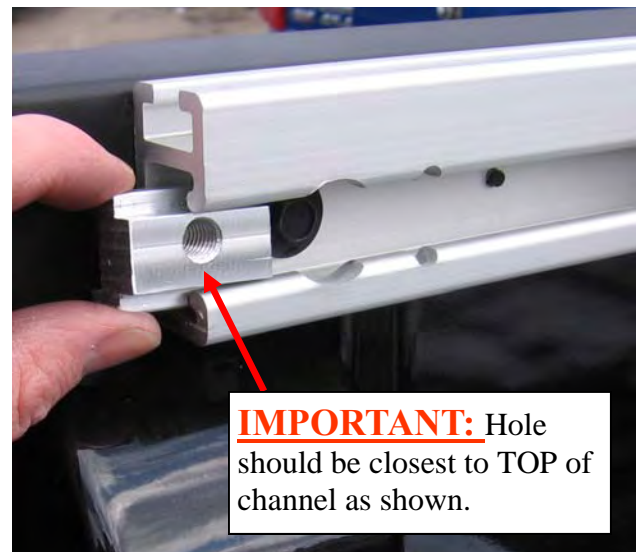

Figure 2—Mounting Cleat Insertion
- Insert (1) mounting cleat (**Figure 2**), into the Utility Rails on each side, position it about 15" from the front of the bed. **Then re-insert the tie down clamps on each side of the bed, before inserting 2nd cleat.**